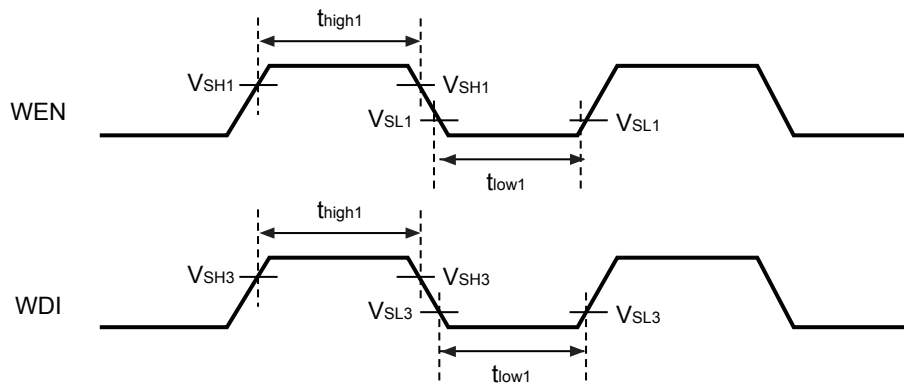

Figure 13
*2. The input pulse width "H" (t_{high1}) and the input pulse width "L" (t_{low1}) are defined as shown in Figure 13.